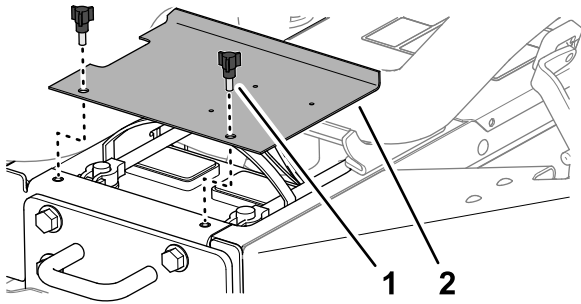

Figure 57
1. Release the latches at the left side and right side of the hood (Figure 57).